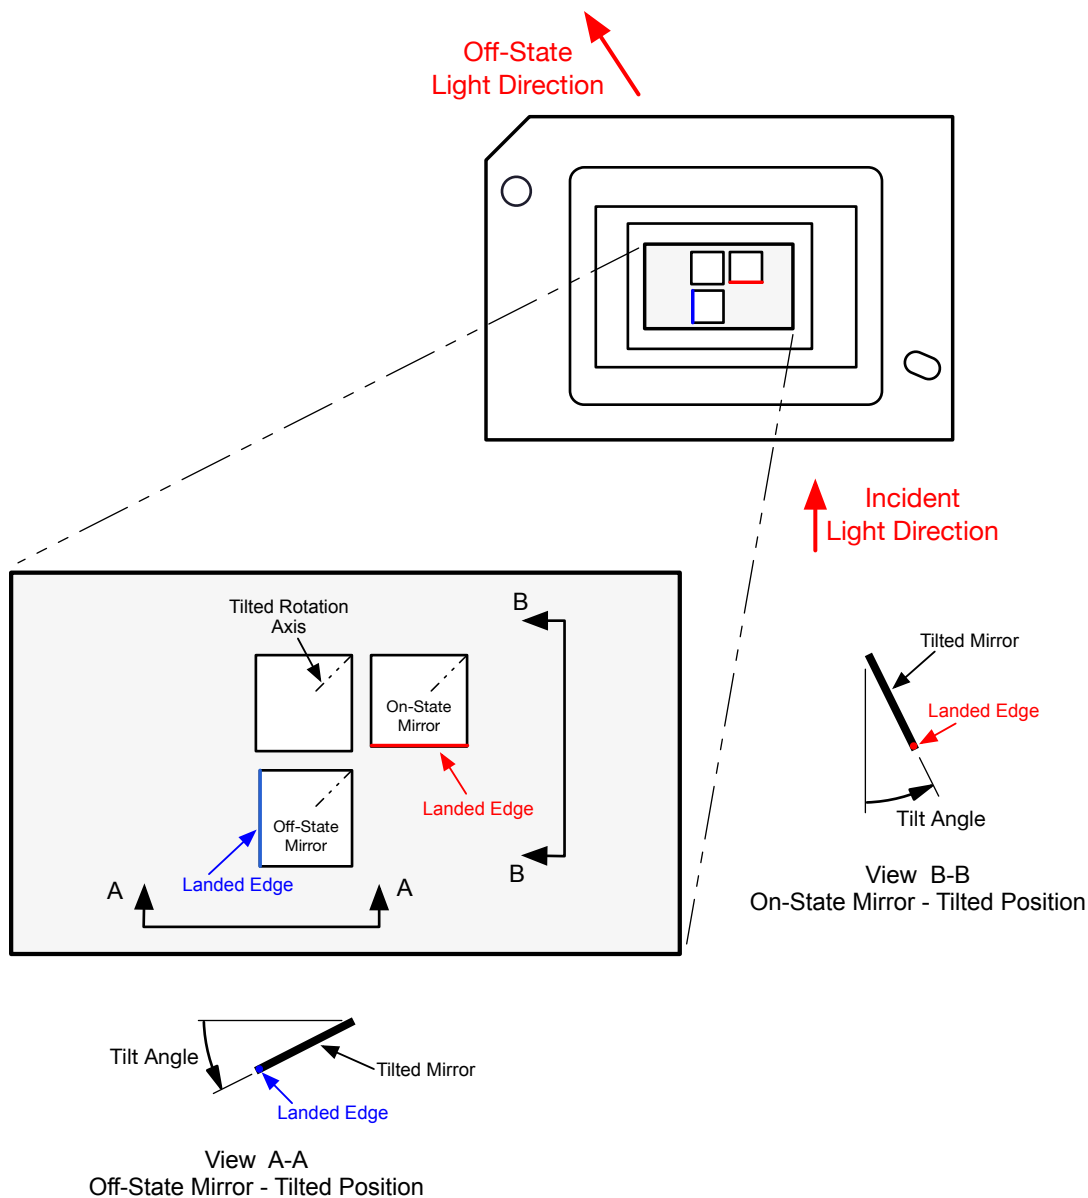

FIG 6-15. Micromirror Landed Orientation and Tilt
- (1) Measured relative to the plane formed by the overall micromirror array.
- (2) Represents the variation that can occur between any two individual micromirrors, located on the same device or located on different devices.
- (3) For some applications, it is critical to account for the micromirror tilt angle variation in the overall system optical design. With some system optical designs, the micromirror tilt angle variation within a device may result in perceivable non-uniformities in the light field reflected from the micromirror array. With some system optical designs, the micromirror tilt angle variation between devices may result in colorimetry variations, system efficiency variations or system contrast variations.
- (4) When the micromirror array is landed (not parked), the tilt direction of each individual micromirror is dictated by the binary contents of the CMOS memory cell associated with each individual micromirror. A binary value of 1 results in a micromirror landing in the ON State direction. A binary value of 0 results in a micromirror landing in the OFF State direction. See Figure 6-15.
- (5) The time required for a micromirror to nominally transition from one landed state to the opposite landed state.
- (6) The minimum time between successive transitions of a micromirror.
- (7) Conditions of Acceptance: All DMD image quality returns will be evaluated using the following projected image test conditions:
- (8) Bright pixel definition: A single pixel or mirror that is stuck in the ON position and is visibly brighter than the surrounding pixels.